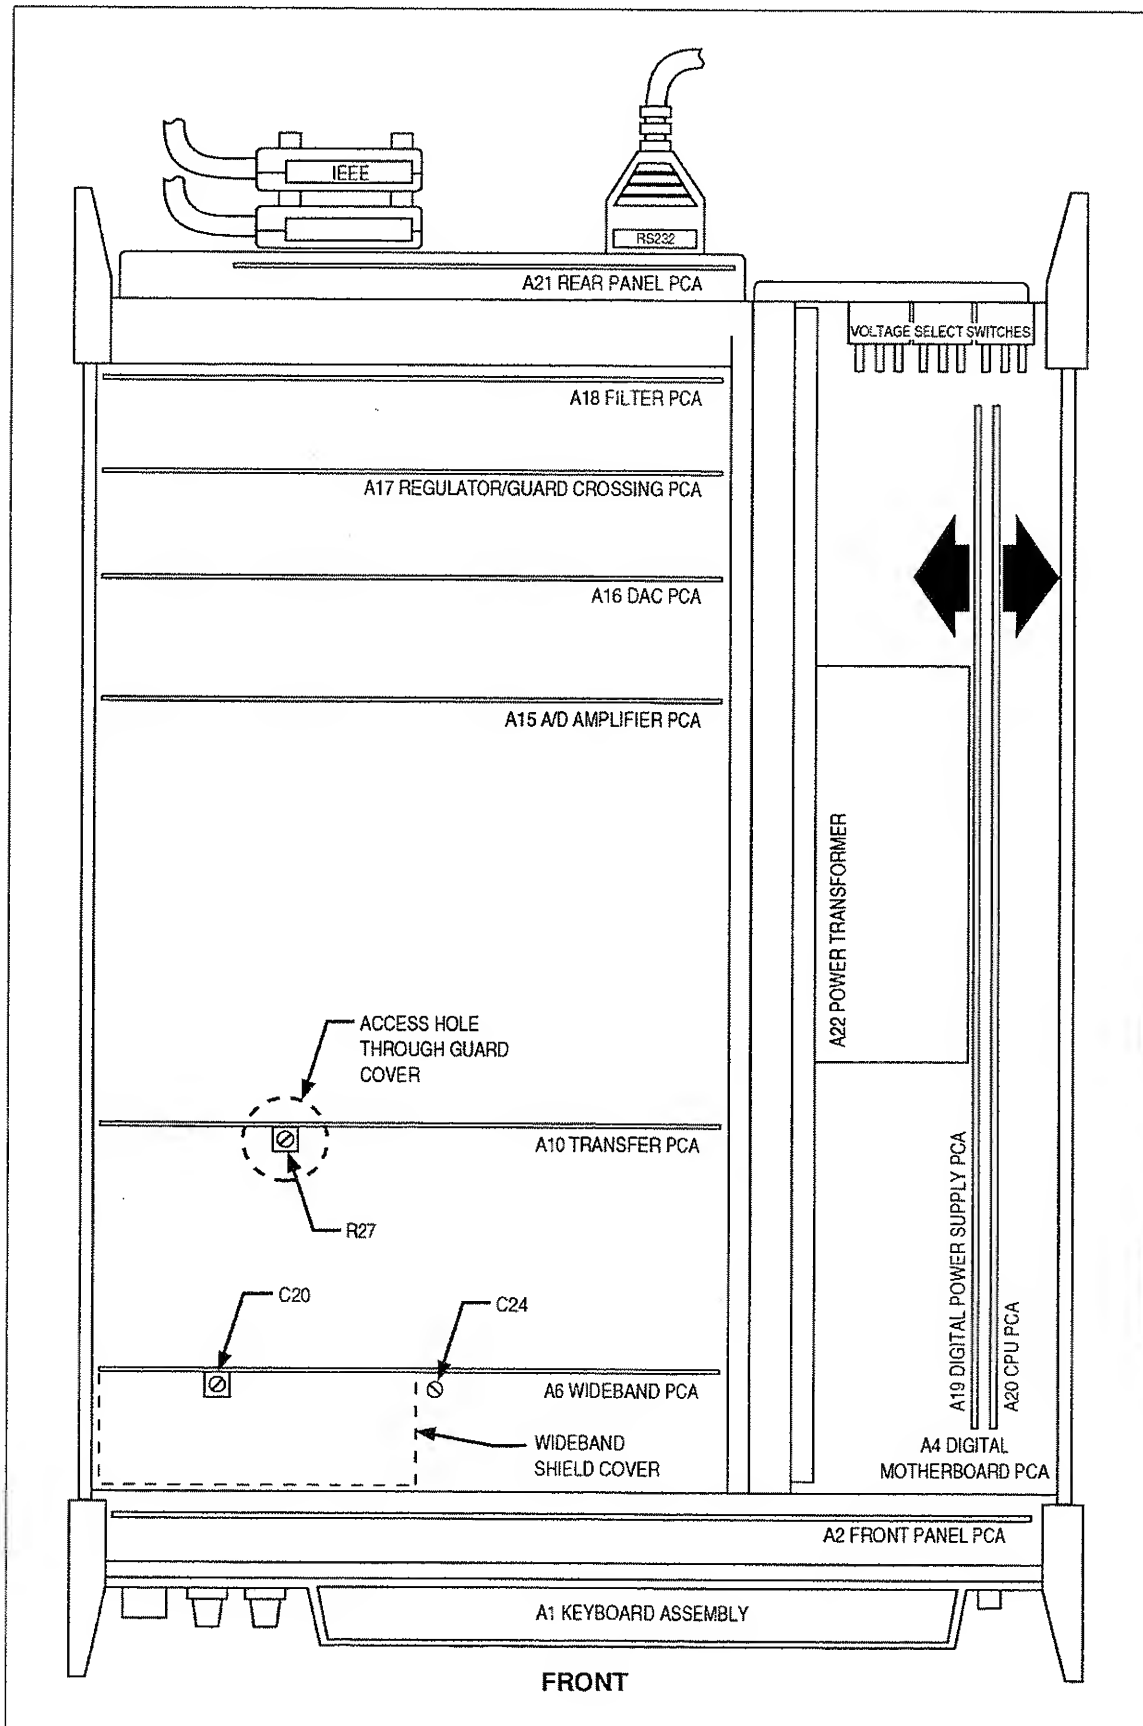

Figure 3-14. Location of R27 (Transfer), and C20 and C24 (Wideband)
3. Locate the access hole for potentiometer R27 on the guard cover as shown in Figure 3-14.
4. Referring to Figure 3-14, locate trimmer caps C24 and C20. C20 is accessed through a hole in the top of the small shield cover.